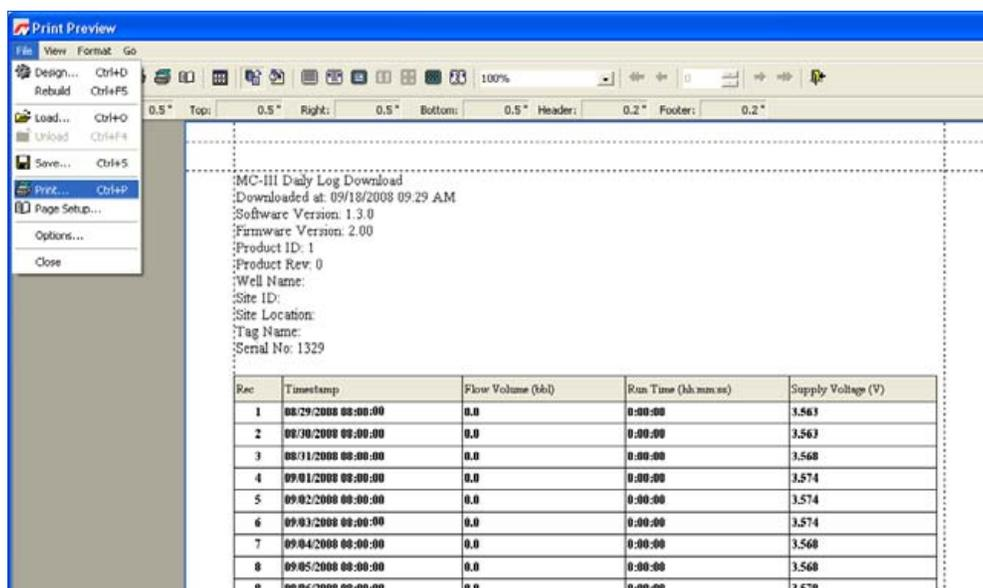
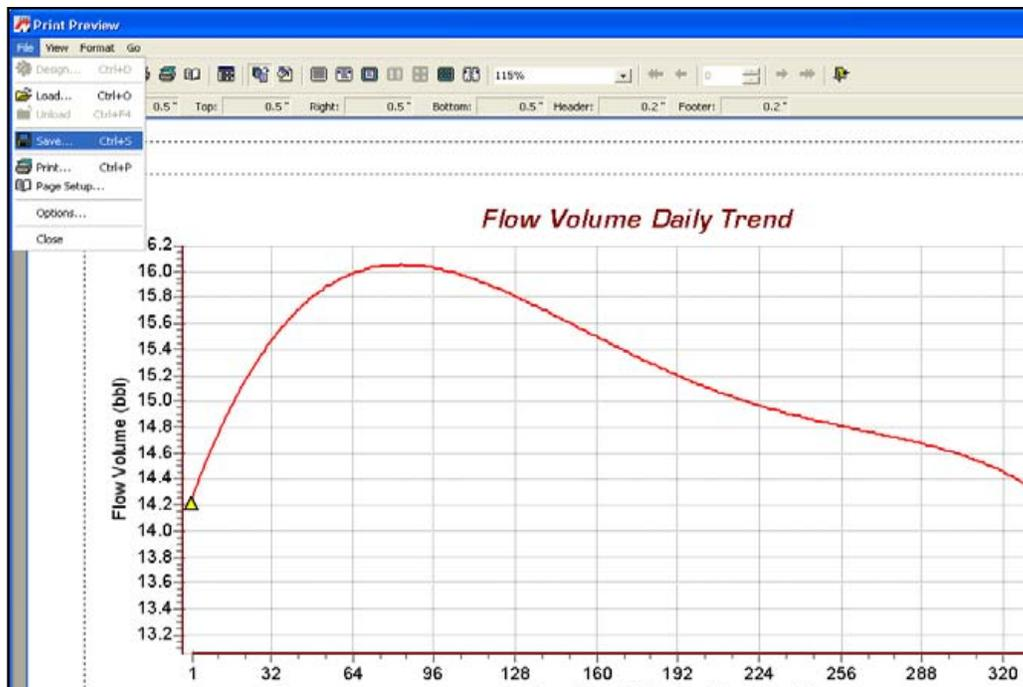
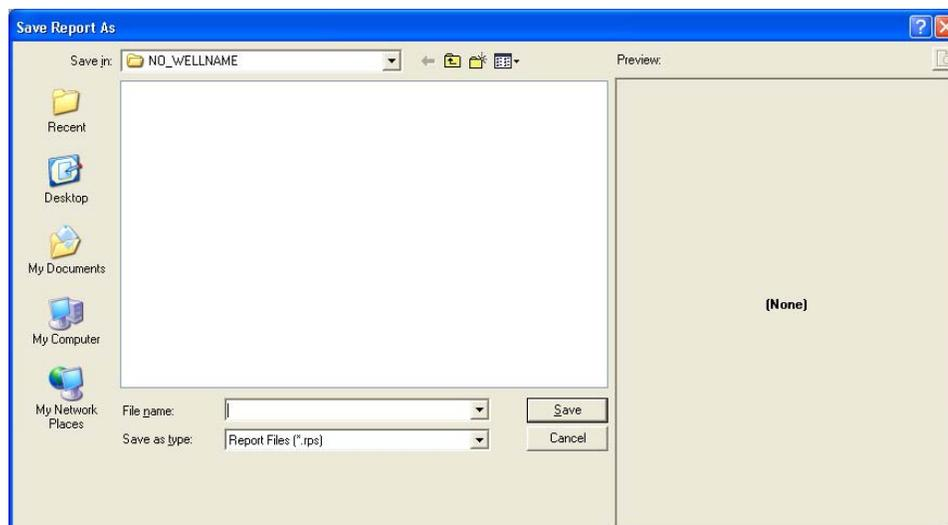

Figure 5.7—Print preview, tabular view
Figure 5.8—Print preview, trend view
Figure 5.9—Save Report As screen
A flow log can be printed and/or saved as a table (Figure 5.7) or a trend chart (Figure 5.8, page 78).
To print the report, select File>Print from the task bar (Figure 5.7).
1. Select File>Save from the task bar (Figure 5.8). A “Save Report As” window will open (Figure 5.9).